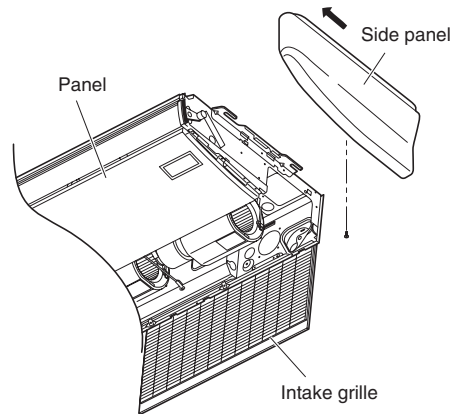

Fig. 3-7
- (1) To take off the side panel, open the intake grille and remove the screw. Then remove the side panel by moving it toward the front (direction of arrow). (Fig. 3-7)